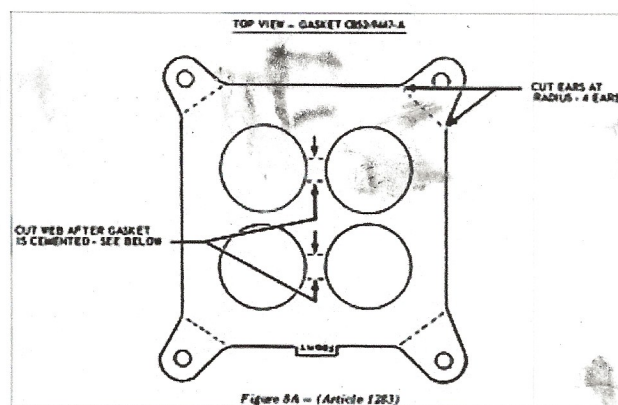

Fig. 8A
- Remove the ears from a C8SZ-9447-A carburetor base gasket as shown in Fig. 8A.
- Cement a C80Z-9447-A carburetor base gasket (brass grommets in the mounting stud holes) to the top of the gasket modified in Step "a" using gasket cement. Be sure the four (4) gasket venturi holes are perfectly aligned.
- After the gaskets are cemented, cut the center webs between the right and left venturi from the gasket previously modified (Fig. 8A) to make the two (2) gaskets similar in that area.